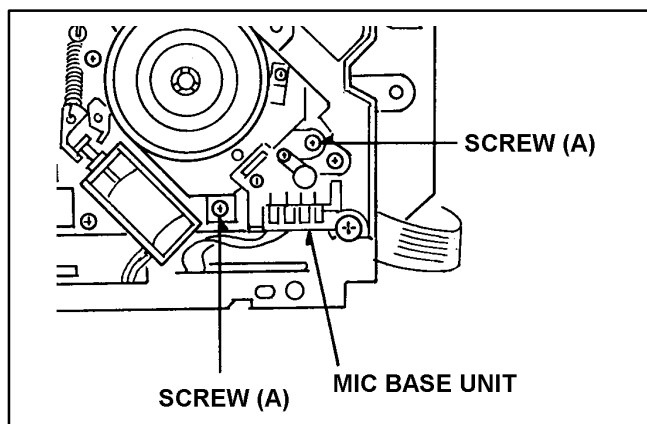

Figure 1-26
2. Unscrew the 2 screws (A) and remove the MIC Base Unit as shown in Figure 1-26.